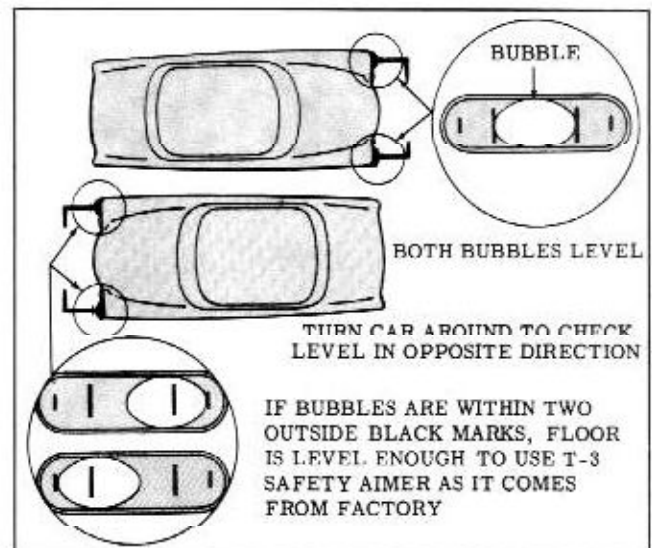

Fig. 13-89 Limits for Aiming Area
5. If the bubbles are still within the 2 outside black marks on the vials, the floor is level enough to use the aimers as they come from the factory. (Fig. 13-89)